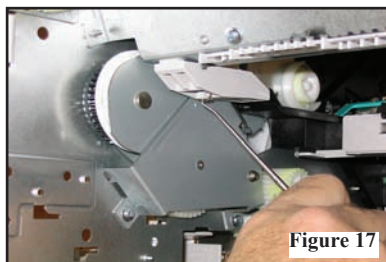

Figure 17 - Use a spring hook to detach and remove the toner cartridge guide.
12. The toner cartridge guide is attached to the printer's frame by a spring. Use a spring hook to detach the spring and remove the toner cartridge guide (Figure 17).